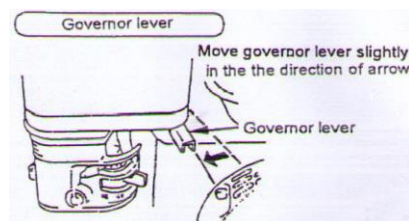

Figure 2
1. Opening the governor lever sharply causes the compactor to start working (Fig.2). When the engine speed reaches around 2300rpm, centrifugal clutch will be engaged. The lever should be operated quickly without hesitation, because increasing the engine speed slowly causes the clutch to slip.
4. To discontinue your work, contrary to the starting time, return the governor lever quickly to LOW position. Do not move it slowly. (Fig.2)